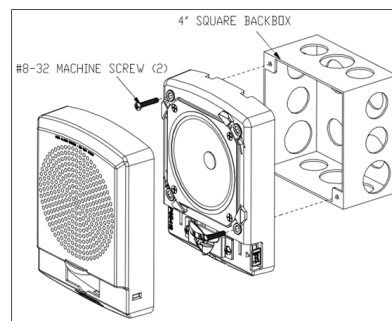
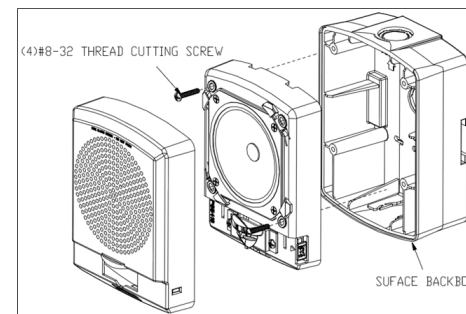

Figure 6: 4-Inch Square Backbox Installation
Figure 7: Surface Backbox Installation
3. Install device as shown in Figure 6 to a 4-inch square backbox, or Figure 7 to a surface mount backbox with the provided pan head screws.